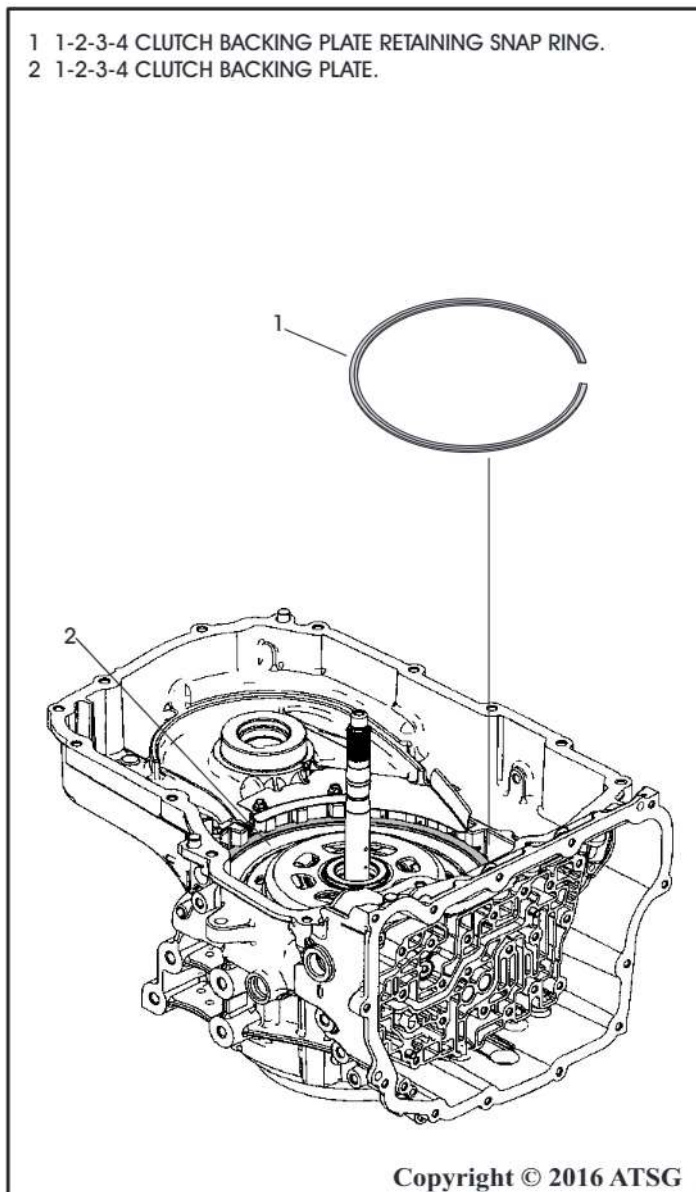

Figure 66
60. Remove the 1-2-3-4 clutch backing plate retaining snap ring as shown in Figure 66 using a long flat bladed tool.